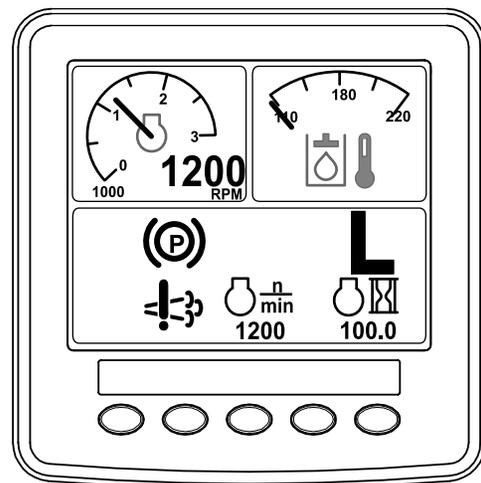

Figure 64
- The recovery-regeneration icon displays in the InfoCenter (Figure 64).